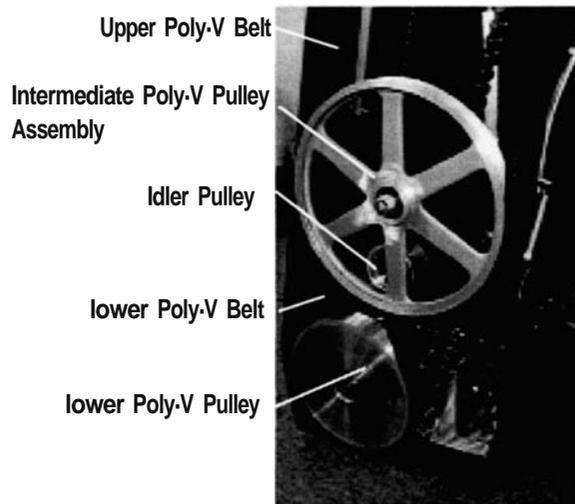

Figure 14: Belt Location
3. Remove the belt (see Figure 14).
2. Push the idler pulley away from the belt (see Figure 14) and remove the lower POly-V belt. Install the new belt, and then reinstall the upper Poly-V belt. Verify proper tension on the upper belt (see Figure 22).
3. Remove the brake cam mounting screw and slide the cam off the brake motor shaft (see Figure 14).